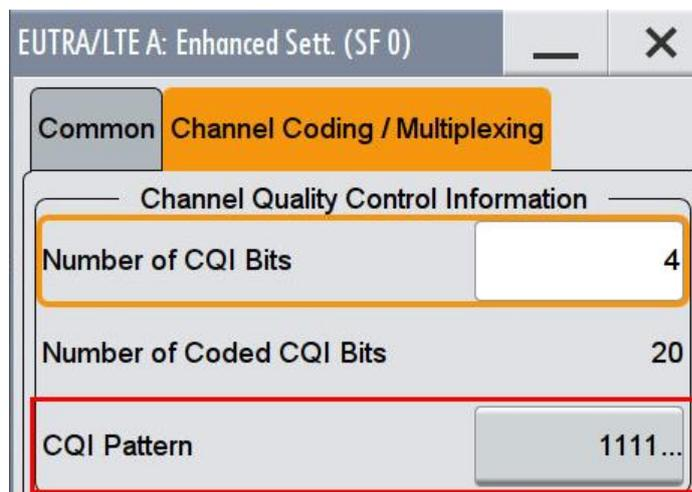

Fig. 3-159: Set four bits CQI pattern to '1111'
12. Set the **Number of CQI bits** to '4' and the **CQI pattern** to '1111' (Fig. 3-159)